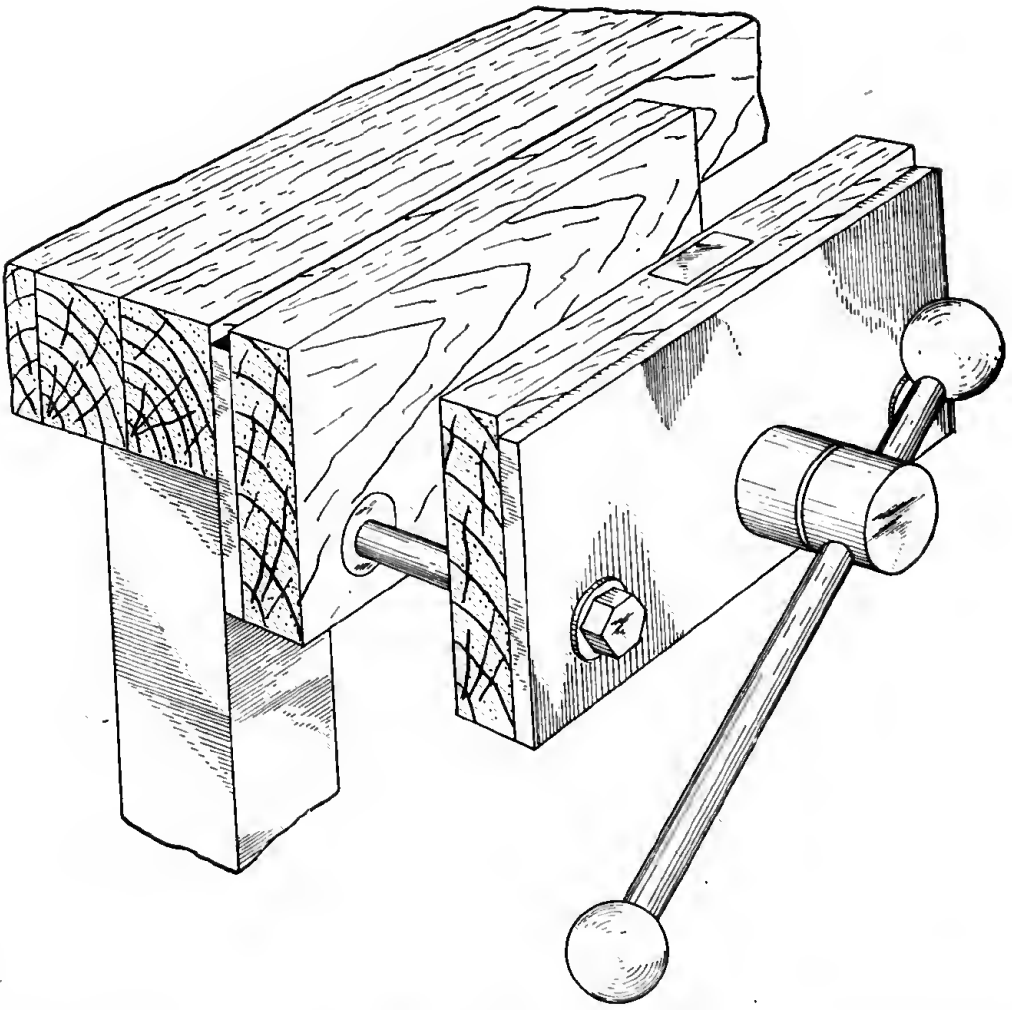

Figure 84. Woodworking vise.
c. **WOODWORKING VISE.** (1) A woodworking vise has hardwood jaws instead of steel jaws, to prevent marring the wood that is held in it. (See fig. 84.) Its use in a woodworking shop is the same as that of a bench vise in a metalworking shop.
(2) Often a woodworking vise has a quick-action feature in the tightening screw mechanism. When the screw handle is turned backward one-half turn or more, the screw is disengaged and the vise may then be pulled open or pushed shut. Turning the handle forward one-half turn engages the screw mechanism and the vise may then be tightened.
d. **HANDSCREW.** (1) The handcrew consists of two hardwood jaws